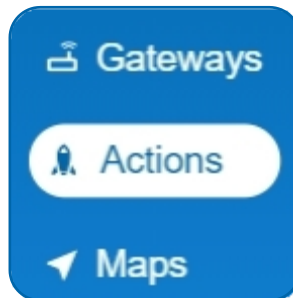

Figure 26
- Actions are triggers or alarms set to notify you when a sensor reading identifies that immediate attention is needed. Types of actions include sensor readings, device inactivity, and scheduled data. Any one of these can be set to send a notification or trigger an action in the system. See Figure 26.